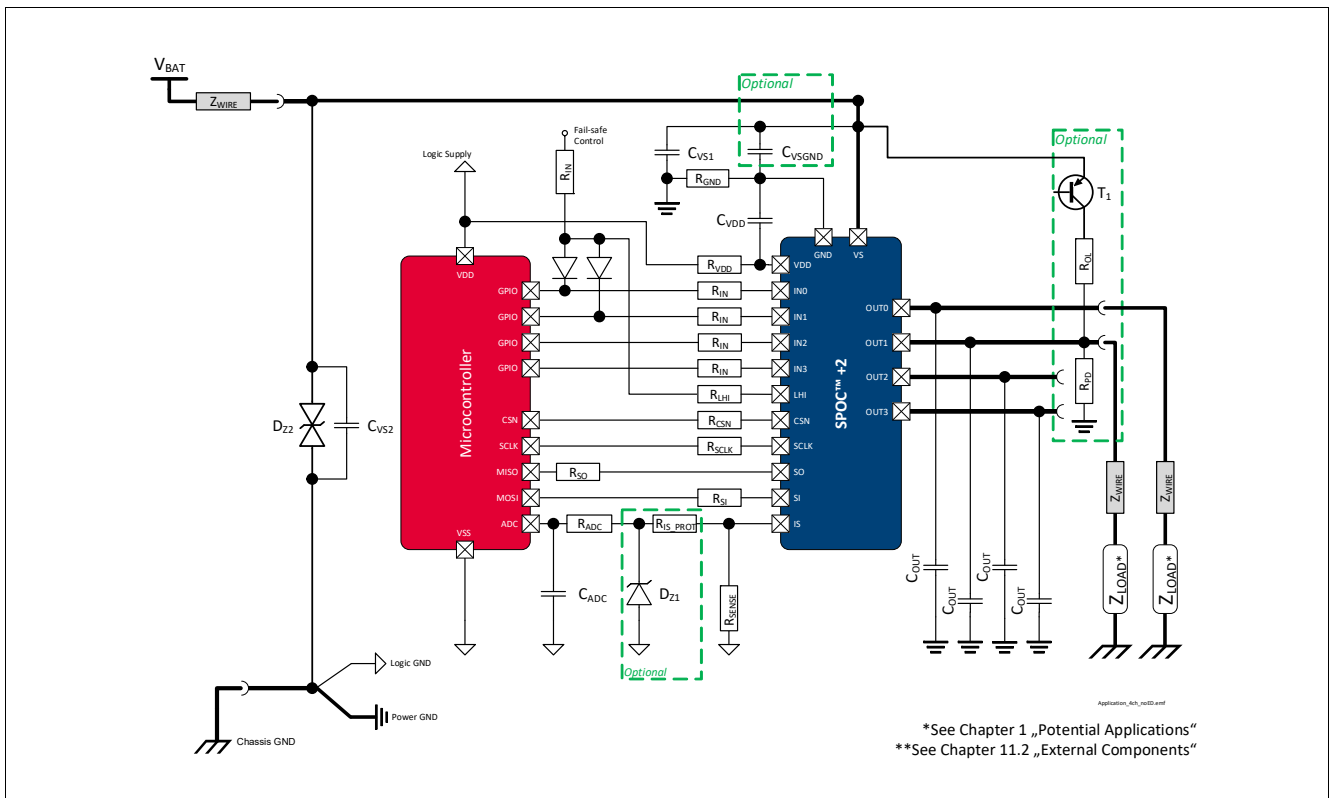

Figure 46 Application Diagram
1.10, 2021-03-23	General: Datasheet quality improved General: updated (ReverSave™ → ReverseON) General: updated (channel description) Icon “PRO-SIL™ ISO 26262-ready” added to front page Chapter 1 updated (Potential Applications updated and Product Validation added) Harmonization of Application Diagram (Figure 1, Figure 46) P_4.4.0.17, P_4.4.0.18 updated (Typ. value and Max. value) P_6.4.0.10 updated (Note or Test Condition) P_6.4.1.5 updated (Note or Test Condition) P_6.4.1.7 removed P_6.5.32.2 added P_9.6.0.6 updated parameter name P_9.6.0.17 added Figure 28 and Figure 29 updated Figure 33 updated Figure 37 and Figure 38 updated Chapter 10.4 typical value for VDD harmonized Chapter 11 updated (figures and descriptions)